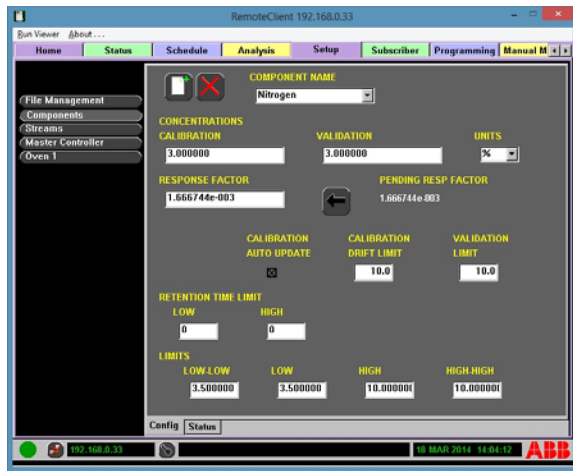

Fig. 5.10. Setup Tab, Showing Calibration Concentration
1. Navigate to the Setup tab (see Figure 5.10).